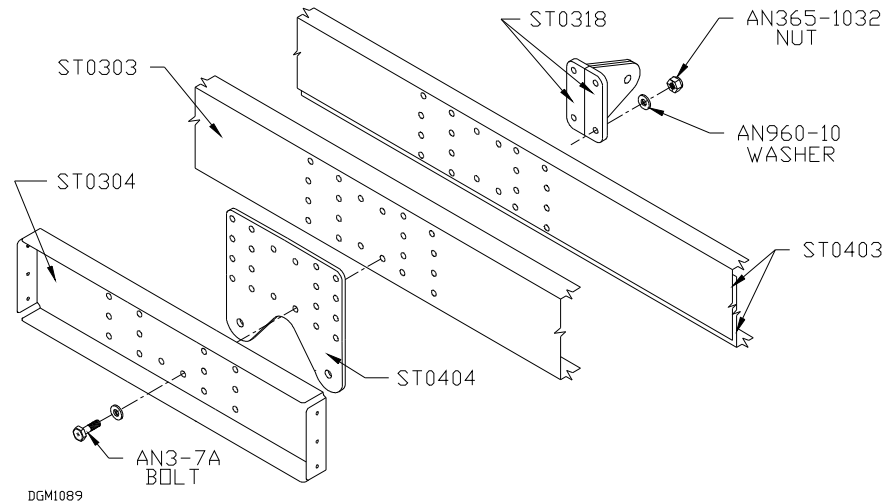

Figure 2.6.3
8. Bolt the center hinges through the Rear Spar [ST0303], Doublers [ST0403], a Rear Attach Bracket [ST0404] and a Rear Center Doubler [ST0304] using four AN3-7A bolts. Figure 2.6.3.